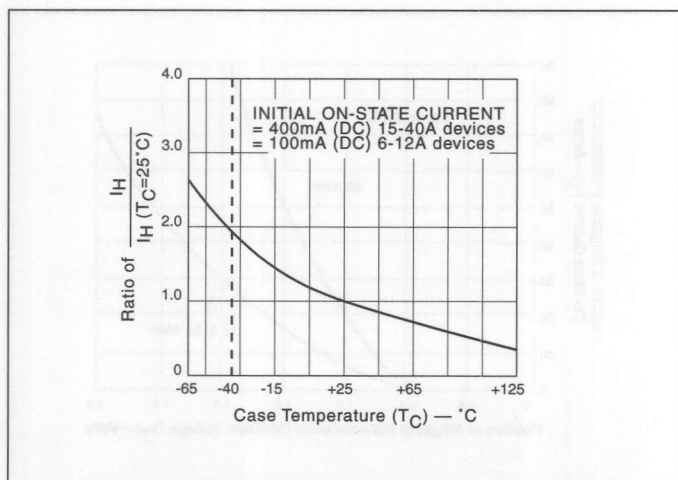

Figure 4.9 Normalized DC Holding Current vs Case Temperature
- See Figure 4.9 for I_H vs T_C .